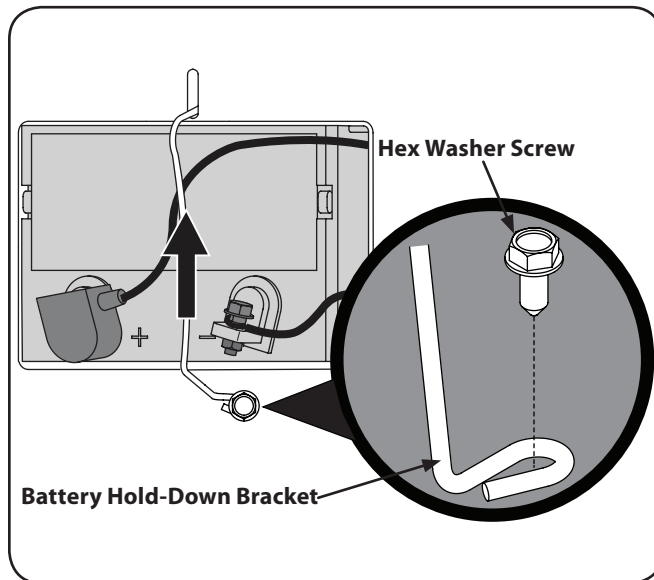

Figure 7-1
1. Remove the hex washer screw securing the battery hold-down bracket to the frame. Then flip the battery hold-down bracket up to free the battery. See Fig. 7-1.